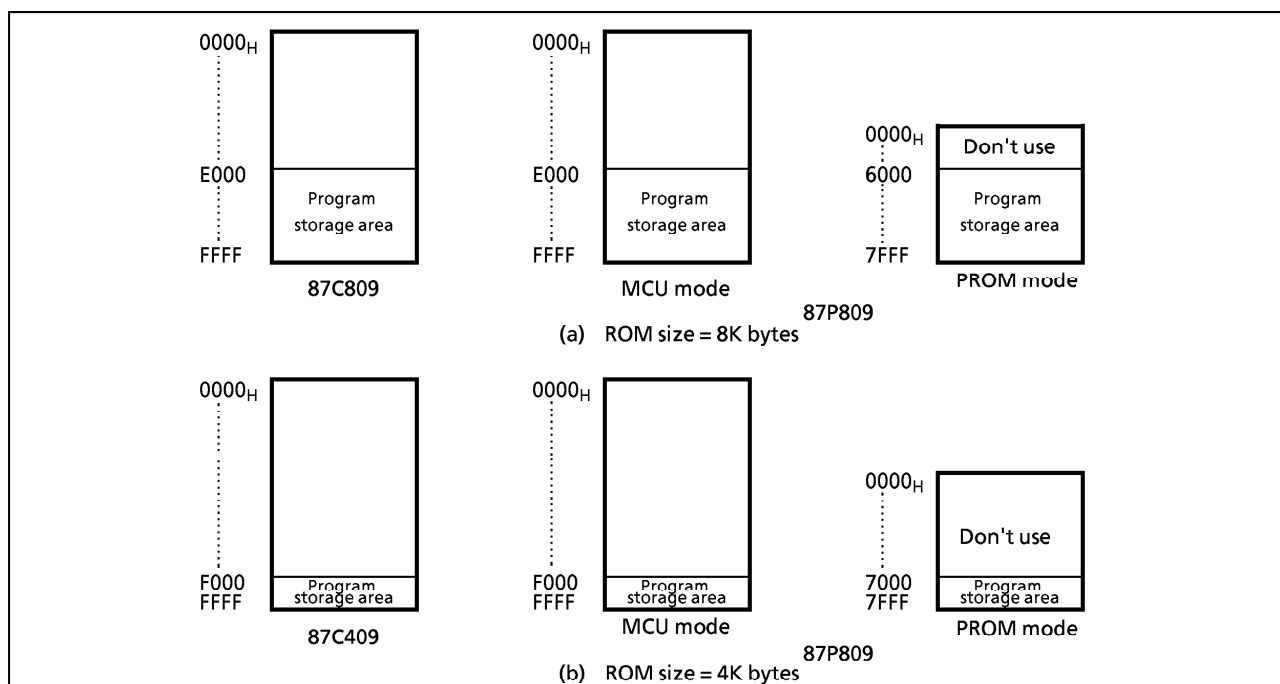

Figure 1-1. Program Memory Area
To use the 87P809 as the system evaluation for the 87C409/809, the program should be written to the program memory area as shown in Figure 1-1.
- (1) Adapters
- (2) Adapter setting
- (3) PROM programmer specifying
- In TMP87P809, EPROM is within the addresses 6000 to 7FFFH. Data is required to be transferred (copied) to the addresses where it is possible to write. The program area in MCU mode and PROM mode is referred to "Program memory area" in Figure 1-1.
- (4) Writing